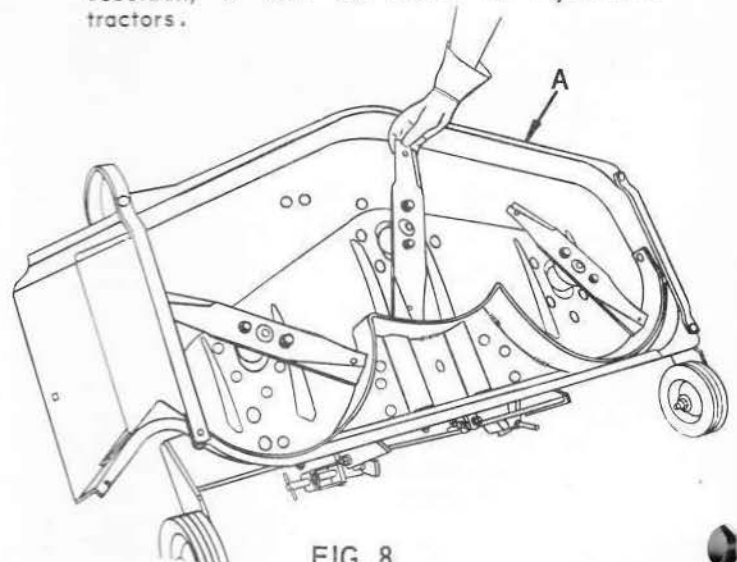

FIG. 8
12. Refer to Fig. 8. Tip mower (A) on its back edge as shown. Rotate blades to be sure that every thing clears. CAUTION: Blades are sharp.